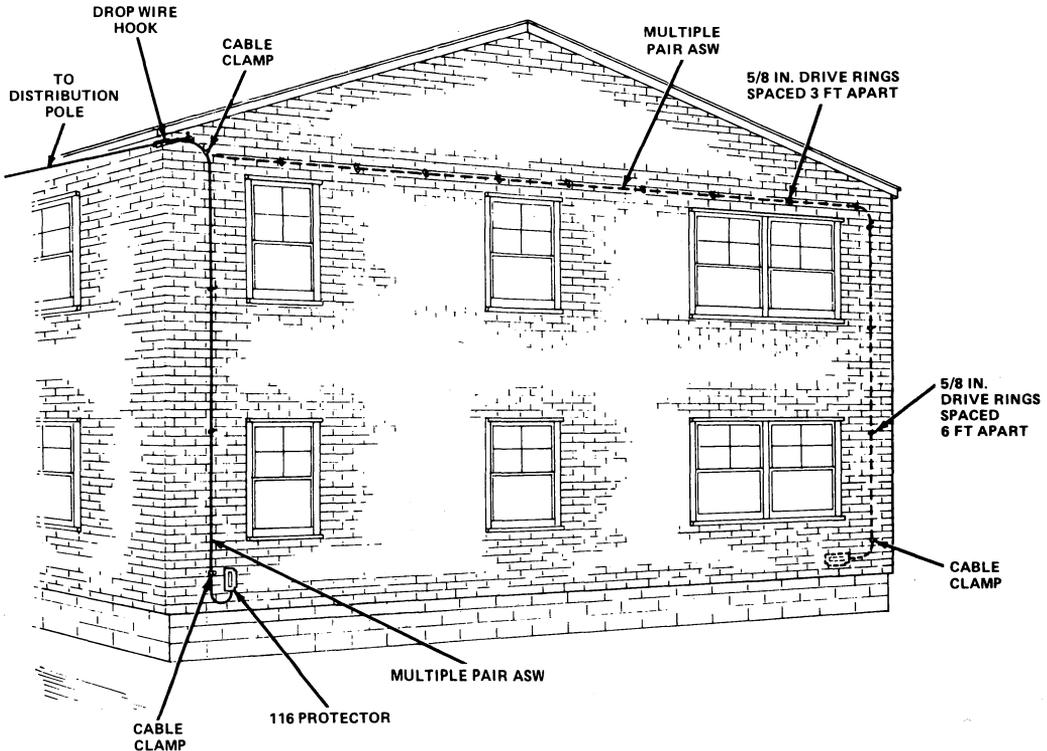

Fig. 8—Typical Wire Run on Building
4.01 Place multiple pair ASW from the protector to the first attachment (Fig. 8) as follows: